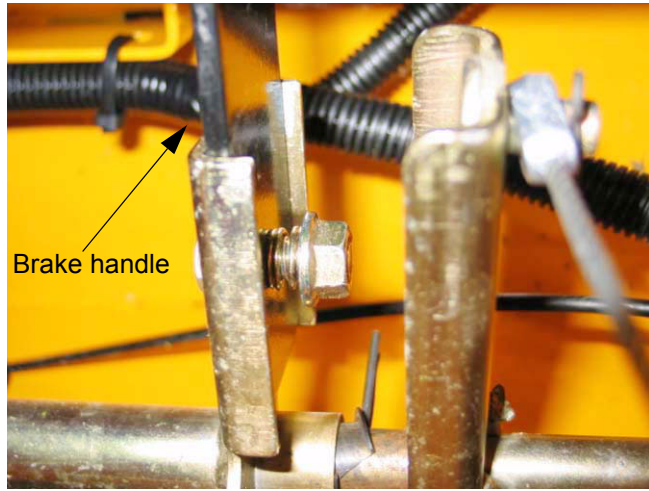

Figure 14.8
- 14.8. Using two 9/16" wrenches remove the bolt, nut, and spring on the brake handle on the left handle side of the deck lift shaft. See Figure 14.8.